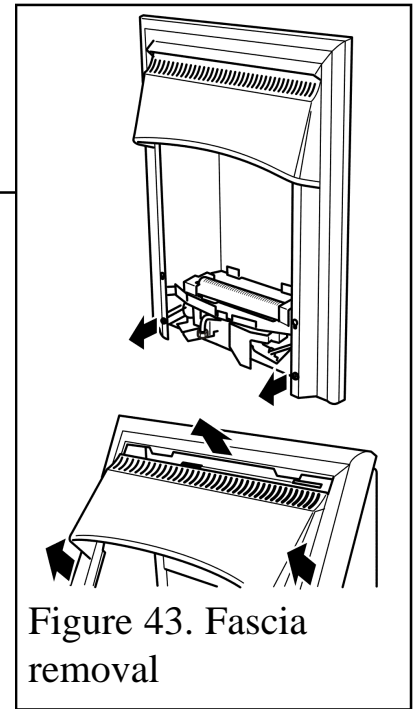

Figure 43. Fascia removal
3. Remove the two screws securing the bottom of the fascia to the sides of the convection box (See figure 43).
4. **Make sure that the control linking bar has been detached (See point 2).** Carefully lift the fascia unit upward to clear the upper retaining brackets on the convection box (See figure 43). Pull the fascia clear and place carefully aside.